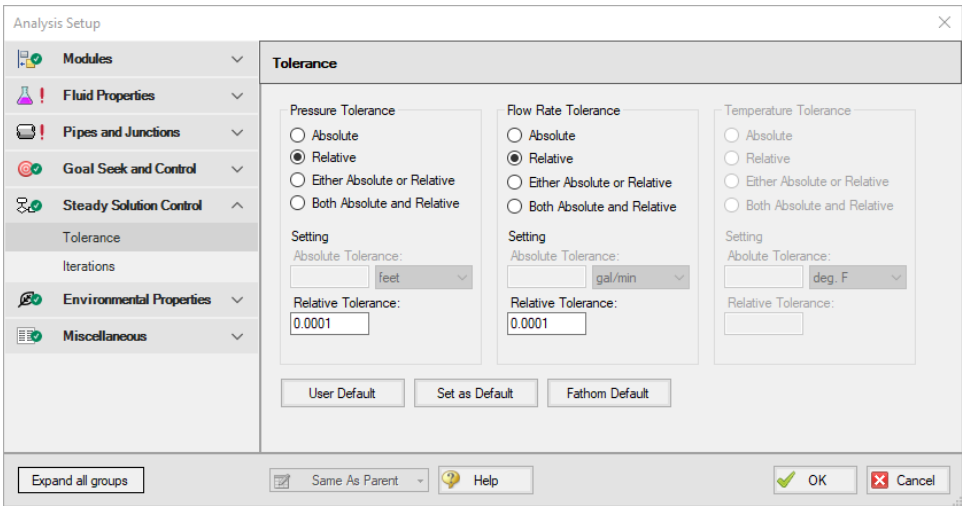

Figure 3: Reducing tolerance may resolve goal seeking difficulties
- **Changing Tolerance on Tolerance panel** - By default AFT Fathom uses Relative Tolerance criteria set to 0.0001 (see Figure 3). Goal seeking convergence can sometimes be improved by reducing these values to 0.00001 or 0.000001.